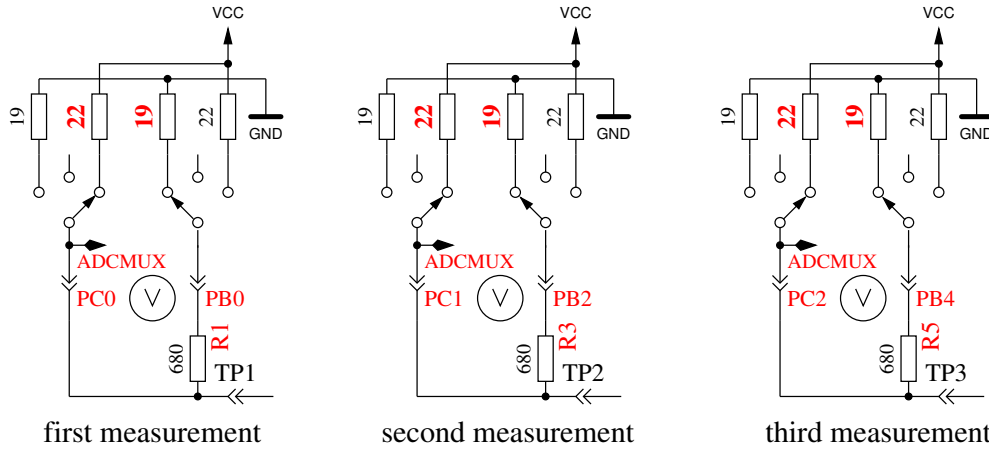

Figure 4.29: Measurement of internal resistance of Port C switched to VCC
8. **Measuring of internal resistance of port outputs switched to the VCC (+)signal.** The needed current is generated with to GND connected 680Ω resistors . The text in the 1st LCD row is “Ri_Hi= (mV)”. In the second row of the LCD three voltages are displayed (in difference to VCC). It are the same measurements as those in test 7 to the other side as you can see in Figure 4.29. With the following steps you can get the resistance: To get the current build: $(5001 - (resultoftest7) - (resultoftest8))/680$. Then you can get both resistor values by dividing the voltage (result of test 7 or 8) by this current.